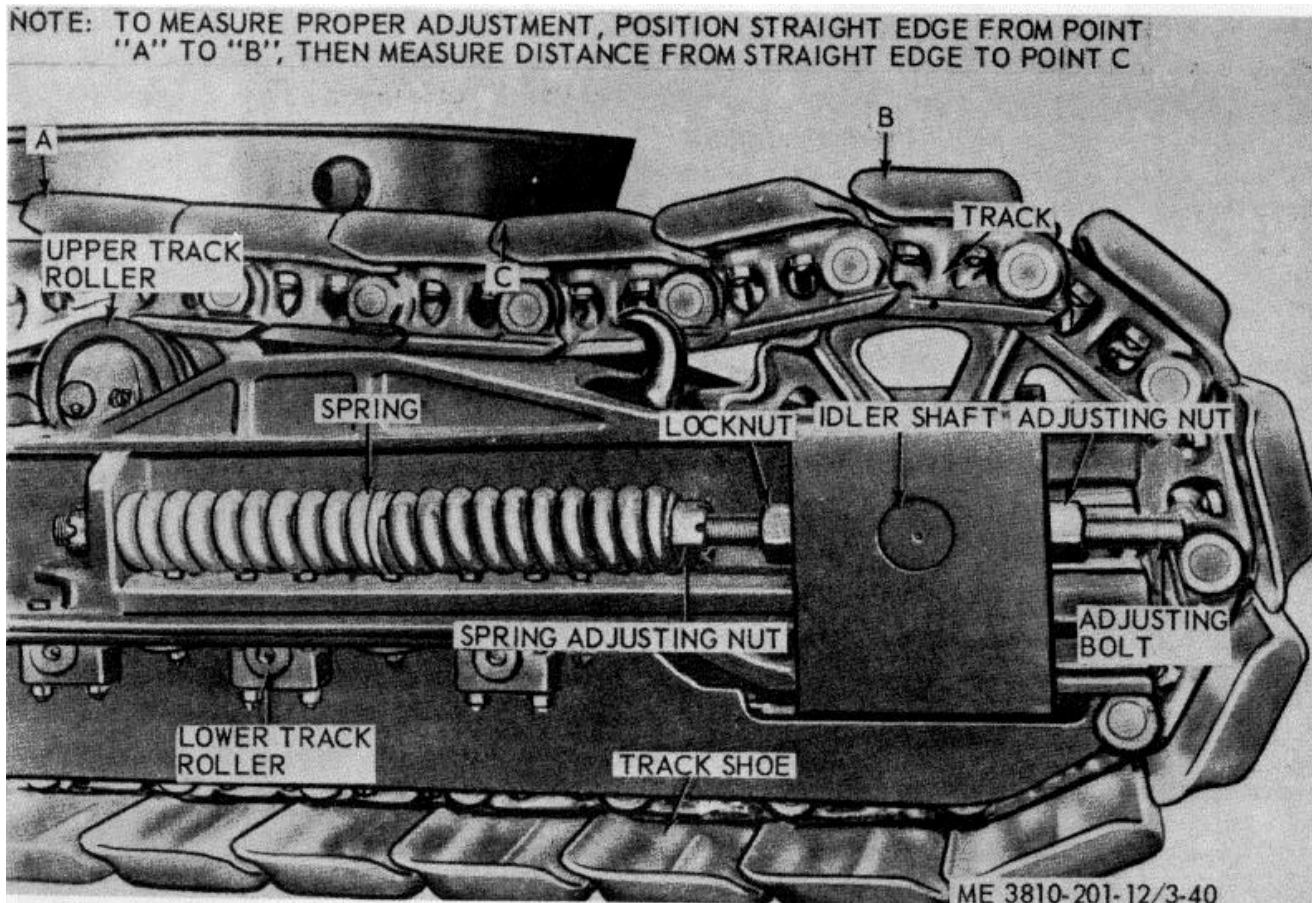

Figure 3-40. Track adjustment.
(1) Position a straight edge on track parallel with frame, between upper roller (fig. 3-40) and high point of track on top of drive sprocket. Measure distance between straight edge and low point of track sag. This distance should be approximately 1 1/2 inches. If sag is more than 1 1/2 inch, loosen locknut on adjusting bolt (on both sides of sprocket), then tighten adjusting nuts until sag is correct.
(2) Measure compressed length of springs. Each spring should measure 31 inches. To adjust length, backoff, or tighten spring adjusting nut (fig. 3-40), until length is correct.